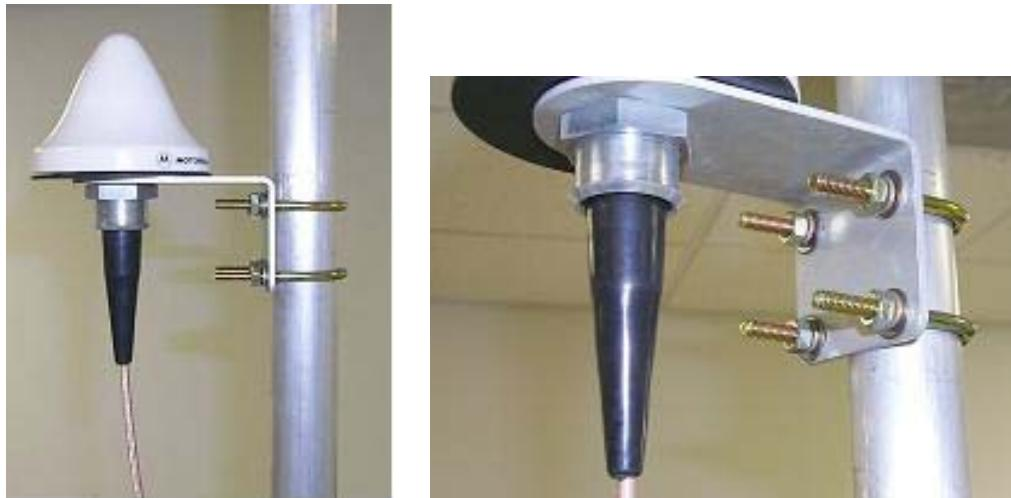

Figure 8: Detail of GPS antenna mounting
3. Place the U-bolts (provided) around the pole as shown in Figure 8.